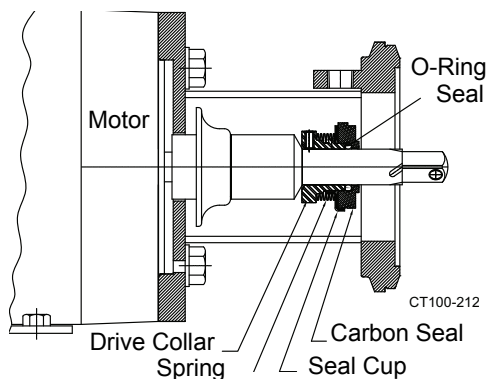

Figure 31 - Installing Seal
7. Assemble the spring, seal cup, o-ring, and carbon seal onto the drive collar. Take care to ensure that the pin on the drive collar is in line with the slot on the cup. (See Figure 31.)